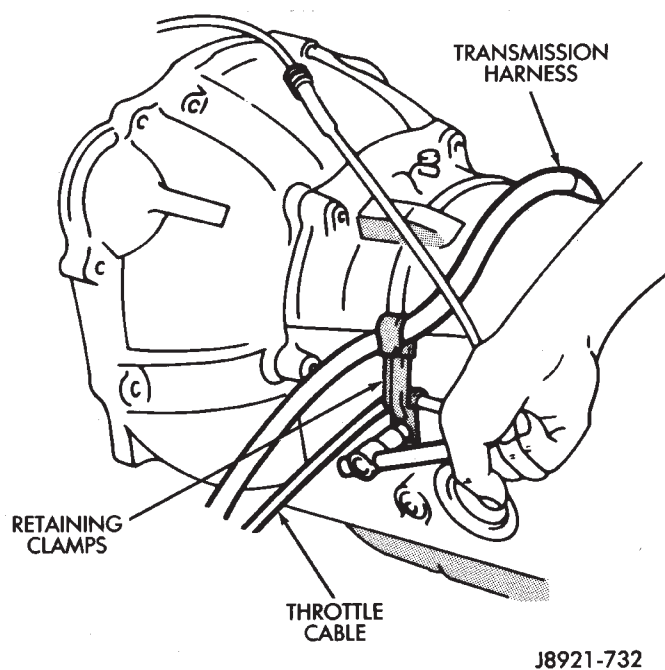

Fig. 70 Installing Cable/Harness Clamps
(97) Tighten park/neutral position switch adjusting bolt to 13 N•m (9 ft. lbs.) torque.
(98) Install transmission shift lever on manual valve shaft. Tighten lever attaching nut to 16 N•m (12 ft. lbs.) torque.
(99) Install retaining clamp for wire harness and throttle cable (Fig. 70).